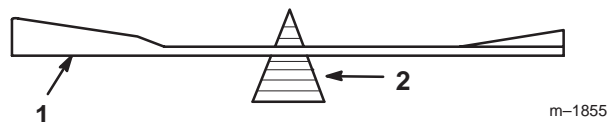
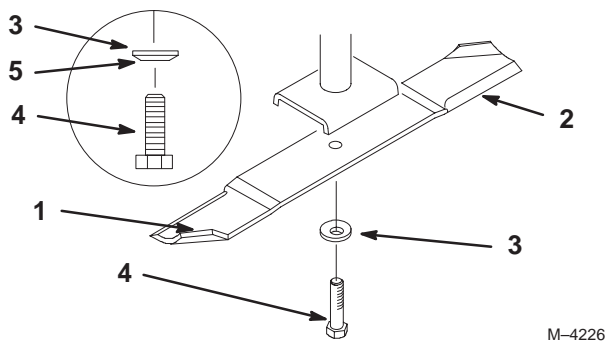

Figure 22
Figure 23
1. Hold the blade end using a rag or thickly-padded glove. Remove the blade bolt, spring disk and blade from the spindle shaft (Fig. 23).
2. Check the balance of the blade by putting it on a blade balancer (Fig. 22). If the blade stays in a horizontal position, the blade is balanced and can be used. If the blade is not balanced, file some metal off the end of the sail area only (Fig. 23). Repeat this procedure until the blade is balanced.
1. Install the blade onto the spindle shaft (Fig. 23).
2. Install the spring disk and blade bolt (Fig. 23). Torque the blade bolt to 85–110 ft-lb (115–150 N•m).